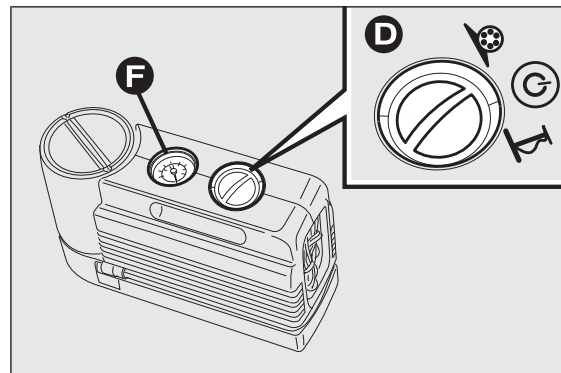
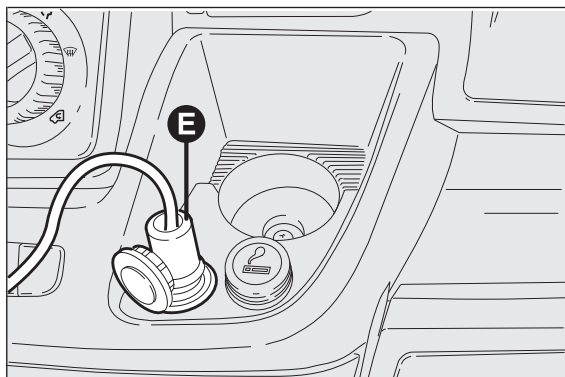

fig. 183
fig. 184
- ☐ insert the plug E fig. 184 in the nearest 12 V power socket and start the engine. Turn the selector D fig. 183 anticlockwise to the repair position. Activate the kit by pressing the on/off switch. Inflate the tyre to the pressure specified in the "Inflation pressure" paragraph, in the "Technical Data" chapter;
For a more accurate reading, it is advisable to check the pressure reading on the pressure gauge F fig. 183 with the compressor off and without moving the centre selector from the repair position;